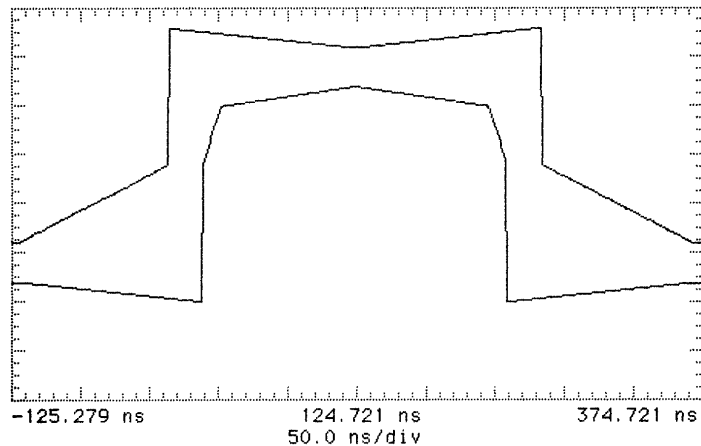

Figure 3-25
15. Press SHIFT **AUTOSCALE** on the oscilloscope to automatically align the pulse to the mask. Verify that the pulse falls within the mask as shown in Figure 3-25.
If your oscilloscope does not have the Mask feature, obtain a printout of the displayed pulse. Place the mask, shown in Figure 3-25, over the pulse and ensure that the pulse falls within the mask. (A transparent copy of the mask should be used).